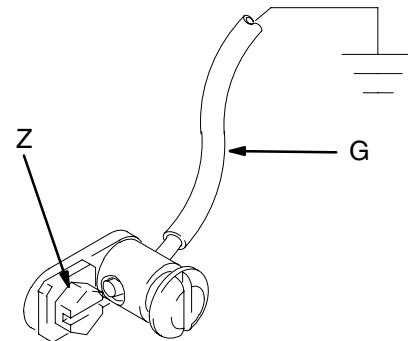

Fig. 2
Use a ground wire and clamp. See Fig. 2. Remove the ground screw (Z) and insert through eye of ring terminal at the end of ground wire (G). Fasten ground screw back onto pump and tighten securely. Connect the other end of ground wire to a true earth ground. Order Part No. 222011 Ground Wire and Clamp.